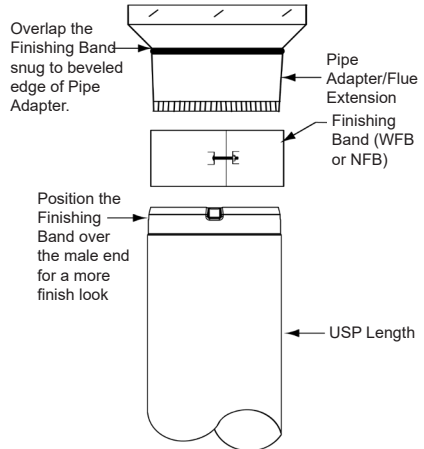

Figure 1A - Shown is a Pipe Adapter with beveled edge
3. Wrap the Finishing Band over the dimpled male end of the USP pipe and the Pipe Adapter/Flue Extension. Ensure the Finishing Band overlaps the male end of the USP pipe and the chimney Pipe Adapter/Flue Extension. Secure the Finishing Band in place with the supplied nut and bolt. See Figures 1A-1B.